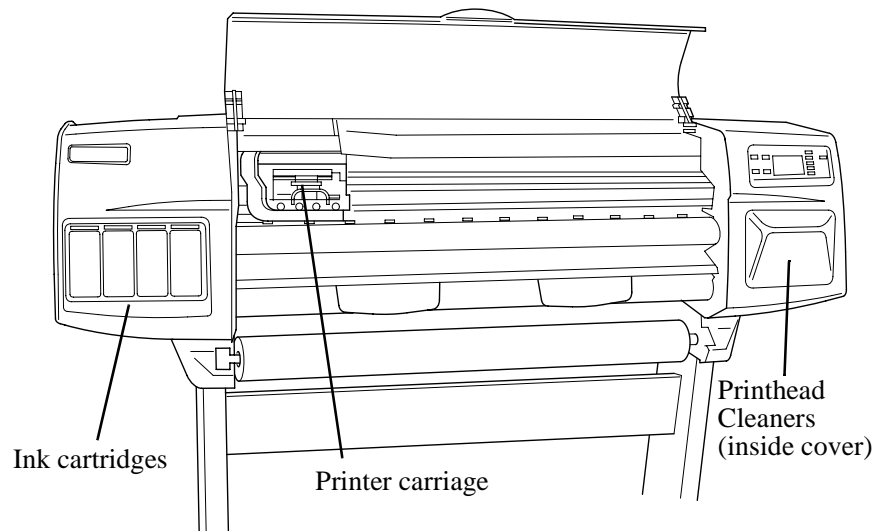
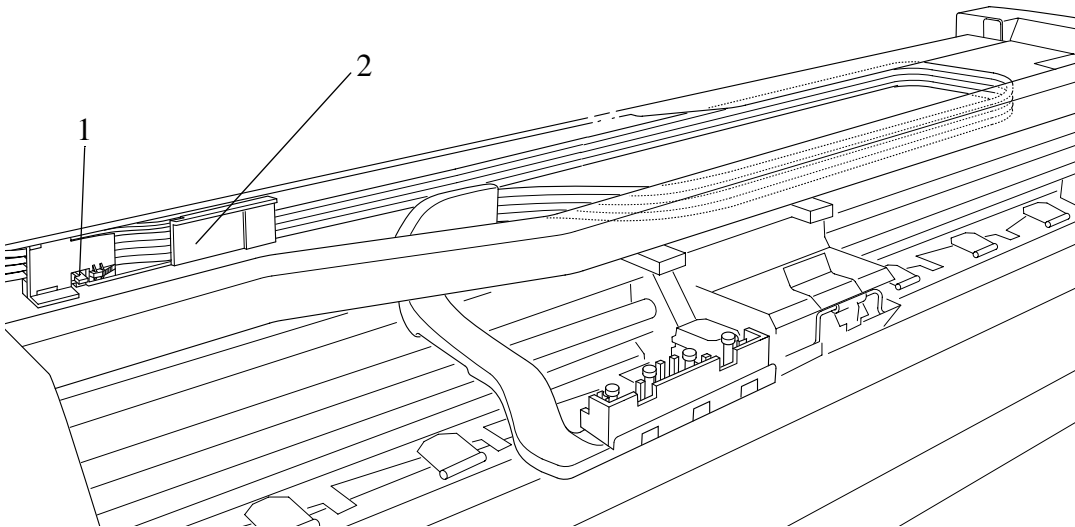

Figure 59: Printer Carriage Location
Figure 70: Tube Retaining Clip
Refer to Figure 59 to Figure 70.
14. Push the tab (item 1) towards you and then push the complete tube retaining clip (item 2) to the right and then pull towards you (refer to Figure 70)